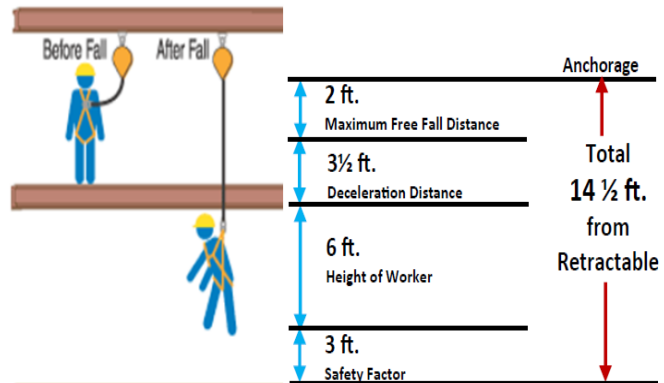

Figure 4 - Calculating Fall Distance
- The fall distance shall be calculated for each work area. (See Figure 4).